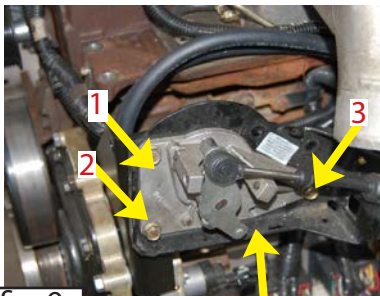

fig. 9a
- 9.\* Secure **transmission kickdown** by bolting the **#12a transmission** kickdown bracket with the **#13b transmission** kickdown support bolt (fig. 9a), and secure the **#13a transmission** kickdown support as shown (fig. 9b). Use the longer **#13b** bolt on **Arrow 3**, and secure the other end of **#13a** with the longer bolt from **#12b** in step 8 (**Arrow 4**).